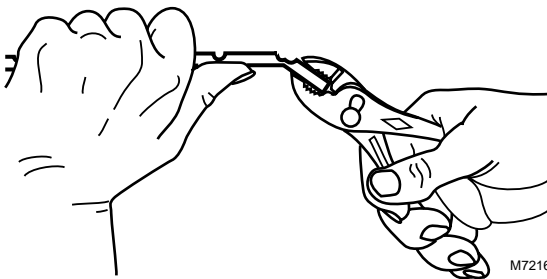

Fig. 13. Removing excess bulb support.
3. Break the holder to the desired length. See Fig. 13.